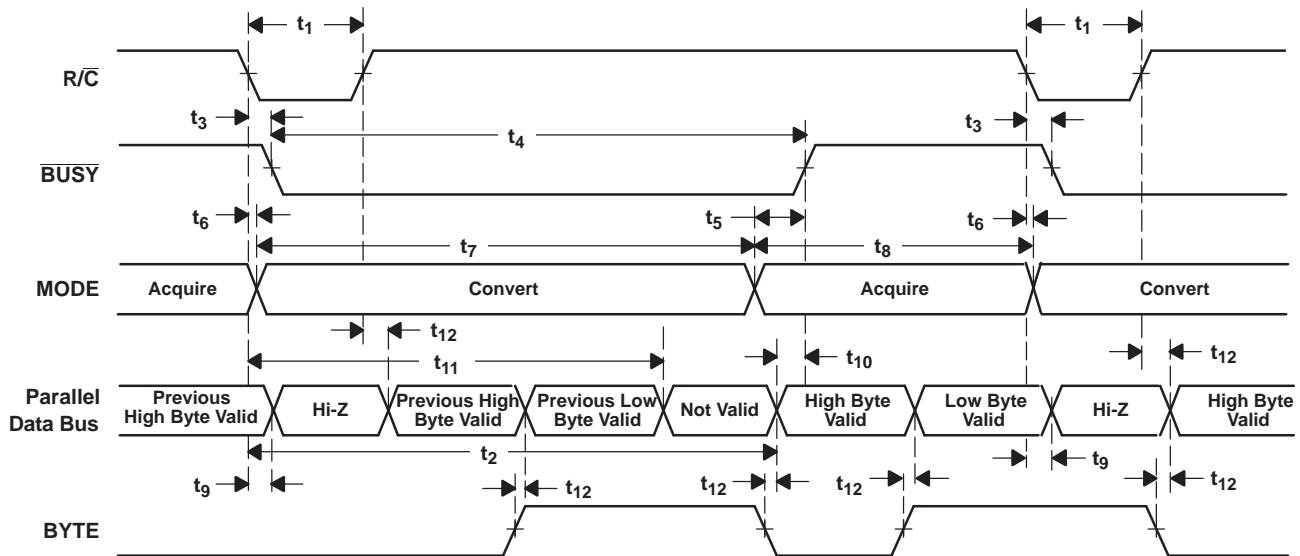
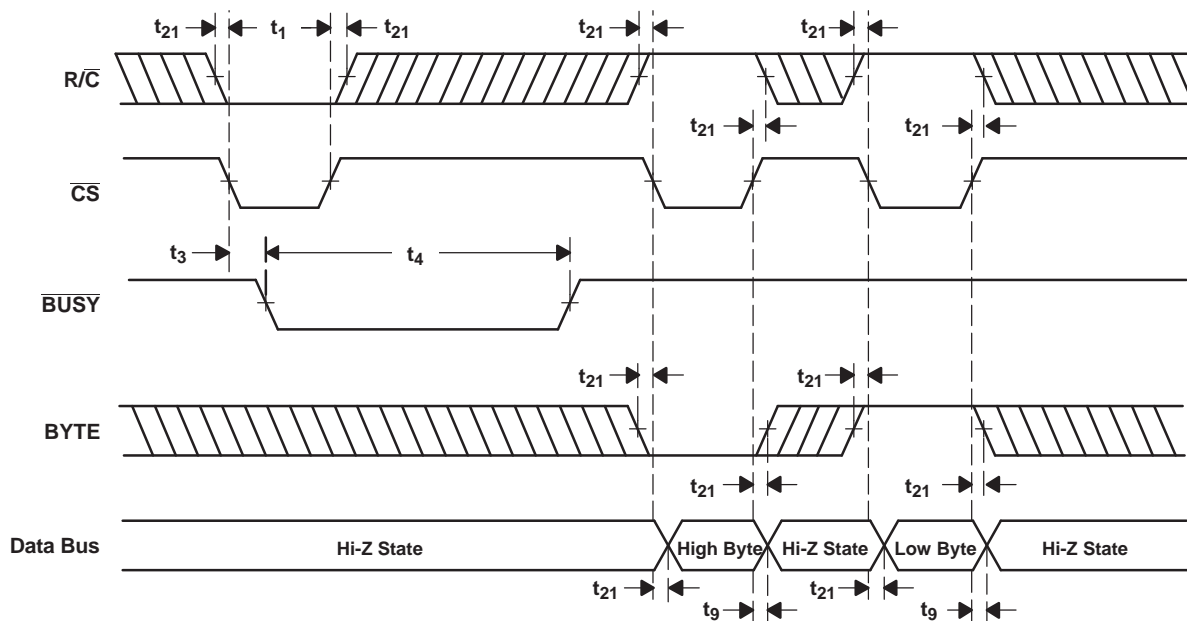

Figure 33. Conversion Timing With Parallel Output ($\overline{\text{CS}}$ and DATACLK Tied Low, EXT/INT Tied High)
Figure 34. \overline{CS} to Control Conversion and Read Timing With Parallel Outputs
The ADS8507 begins tracking the input signal at the end of the conversion. Allowing 25 μ s between convert commands assures accurate acquisition of a new signal. Refer to Table 2 and Table 3 for a summary of \overline{CS} , R/\overline{C} , and \overline{BUSY} states, and Figure 33, Figure 34, Figure 35, Figure 36, Figure 37, Figure 38, and Figure 39 for timing diagrams.
(1) See Figure 33 and Figure 34 for constraints on data valid from conversion *N*–1.
After conversion N is completed and the output registers have been updated, $\overline{\text{BUSY}}$ (pin 24) goes high. Valid data from conversion N is available on D7-D0 (pin 9-13 and 15-17). $\overline{\text{BUSY}}$ going high can be used to latch the data. Refer to Table 5 and Figure 33 and Figure 34 for timing specifications.
After conversion N has been initiated, valid data from conversion $N-1$ can be read and is valid up to 12 μs after the start of conversion N . Do not attempt to read data beyond 12 μs after the start of conversion N until \overline{BUSY} (pin 24) goes high; this may result in reading invalid data. Refer to Table 5 and Figure 33 and Figure 34 for timing constraints.